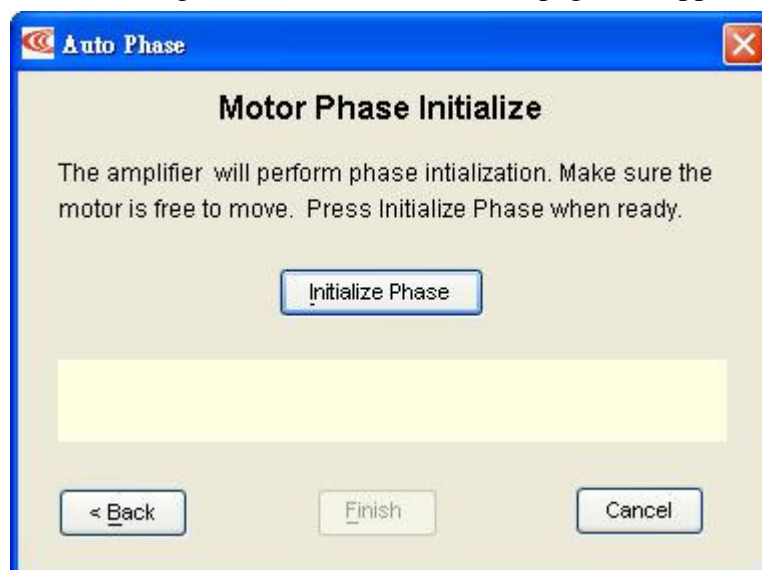

Fig. 17 Motor Phase Initialize
- e. Press next and Fig. 17 Motor Phase Initialize page will appear.